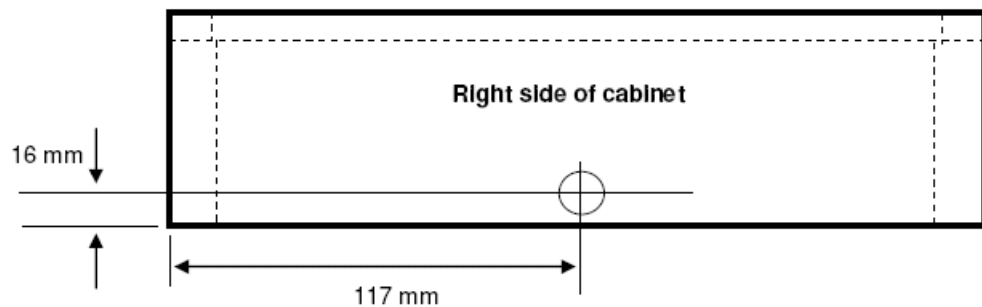

Figure 60: Position of the hole in the cabinet
4. At the right hand side of the cabinet, you must drill a hole for the cable inlet. Mark the hole as shown in Figure 60: Position of the hole in the cabinet on page 218.